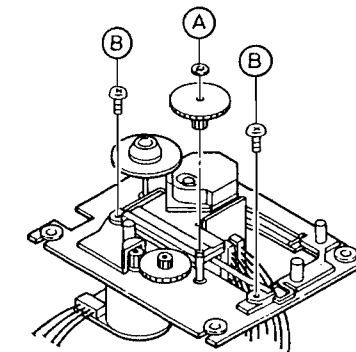

Figure 8
2. Remove a washer (A) holding the gear. (See Figure 8.)
3. Remove two screws (B). (See Figure 8.)